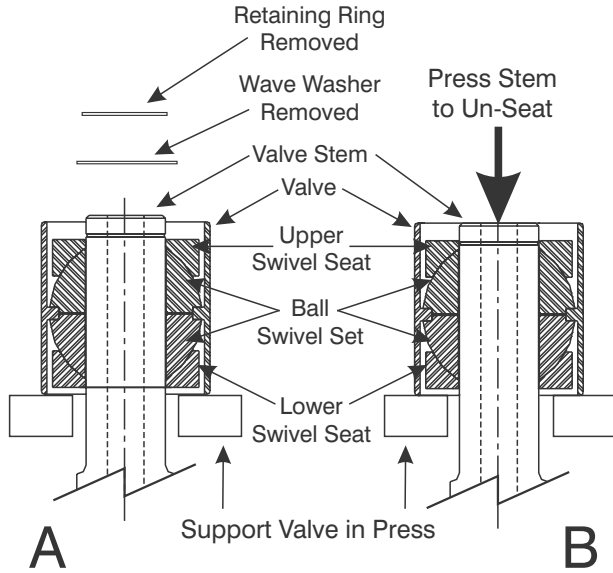

Figure 8-16. Valve Stem and Valve Components in Arbor Press
6. Refer to Figure 8-16-A, and position the Valve Stem (8) and its assembled components in an arbor press.
- Support the edges of the Valve (7) with standard blocking. Allow the Valve Stem to hang freely below the blocking.
- Place the plunger of the arbor press against the tip of the Valve Stem (8)
7. Press the Valve Stem (8) from the assembled Valve (7), Swivel Seat (5) and Ball Swivel (6) as shown in Figure 8-16-B.